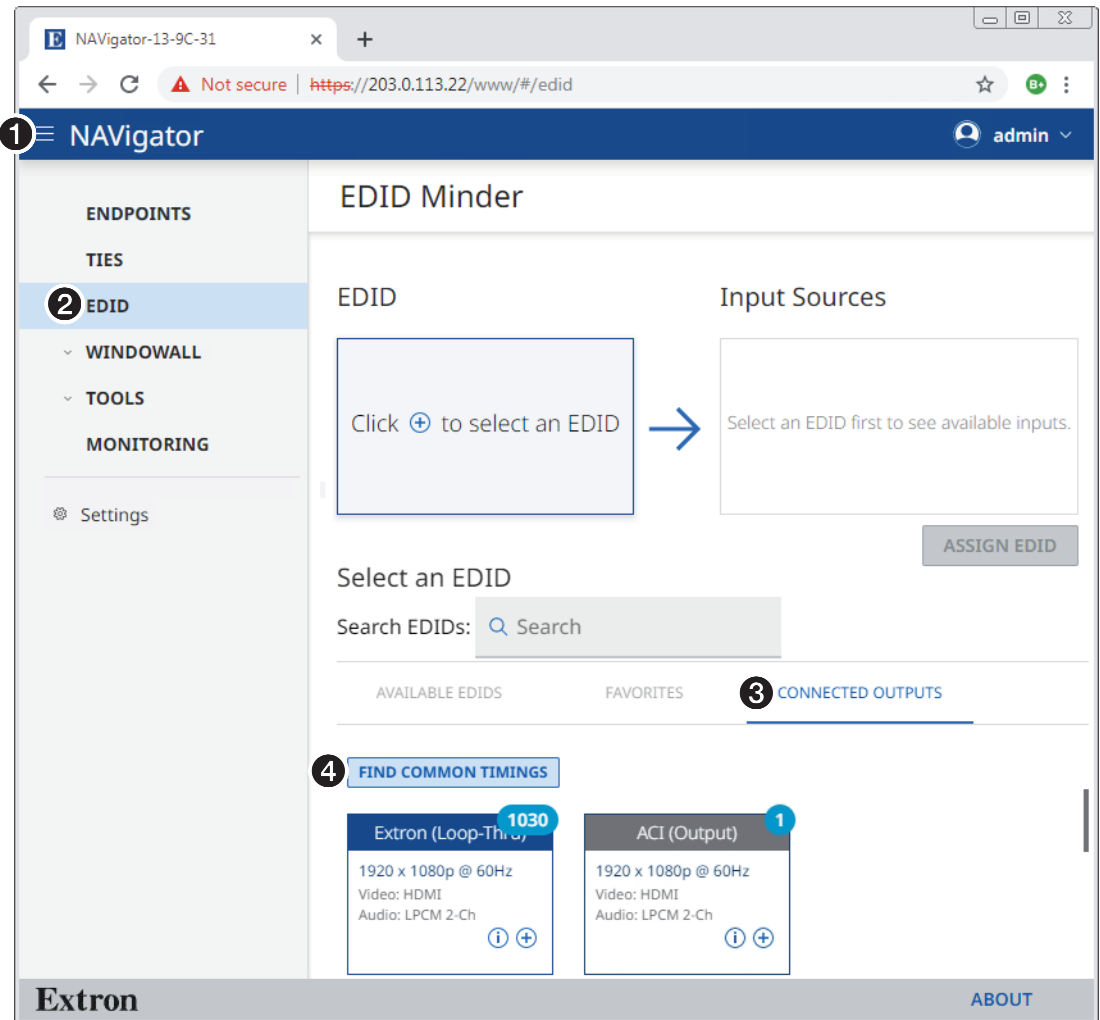

Figure 60. EDID Pane and Common Timings
1. If necessary, click the **Menu** icon (see figure 60, ❶).